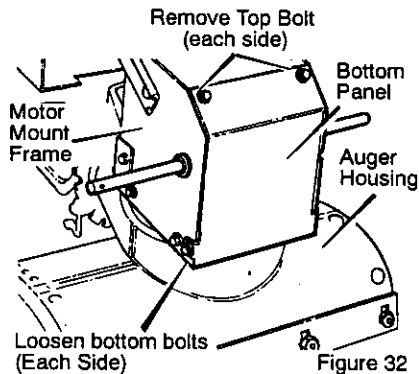

Figure 32
3. Remove the **bolts** on each side of the **bottom panel**. See Figure 32.
3. Remove the top bolts on each side of the bottom panel. See Figure 32.
16. Install the **bottom panel**. See Figure 32.